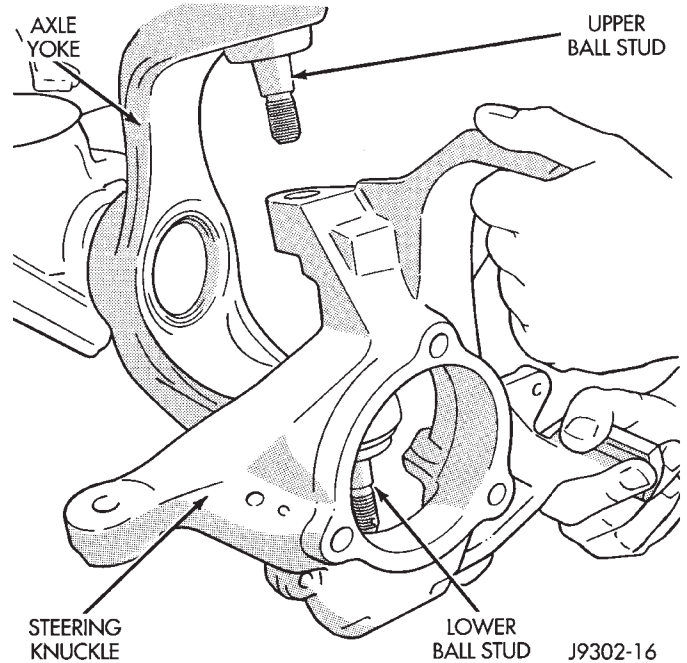

Fig. 13 Steering Knuckle Removal/Installation
- (1) Remove hub bearing and axle shaft.
- (2) Disconnect the tie-rod or drag link from the steering knuckle arm. Refer to Group 2, Suspension, for proper procedures.
- (3) Remove the cotter pins from the upper and lower ball studs.
- (4) Remove the upper and lower ball stud nuts.
- (5) Strike the steering knuckle with a brass hammer to loosen knuckle from the ball studs. Remove knuckle from ball studs (Fig. 13).